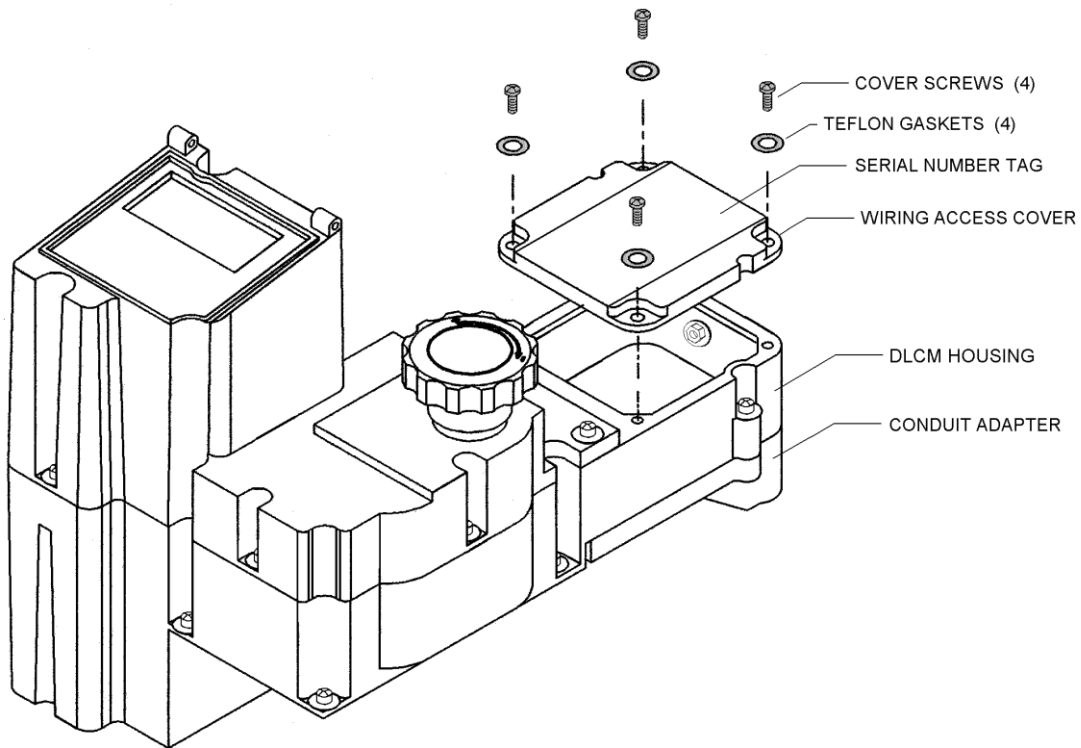

Figure 34 – Wiring Cover Access
3. Remove the four screws and Teflon Gaskets that hold the wiring access cover to the DLCM (refer to **Figure 34**).
17. Remove the 4 wiring access cover screws and cover (refer to **Figure 34**).